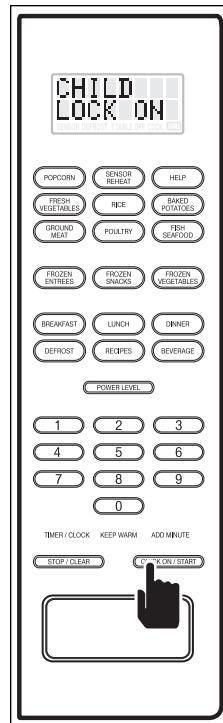

Figure 3-69.
3. For this example, the QUICK ON/START key is pressed, initiating the Child Lock Feature. The display will then show the time of day. (See Figure 3-69) With the Child Lock Feature on, all keys on the control panel, except the HELP key, will be disabled. If any of the keys are pressed, except the HELP key, "CHILD LOCK" will flash on the display.